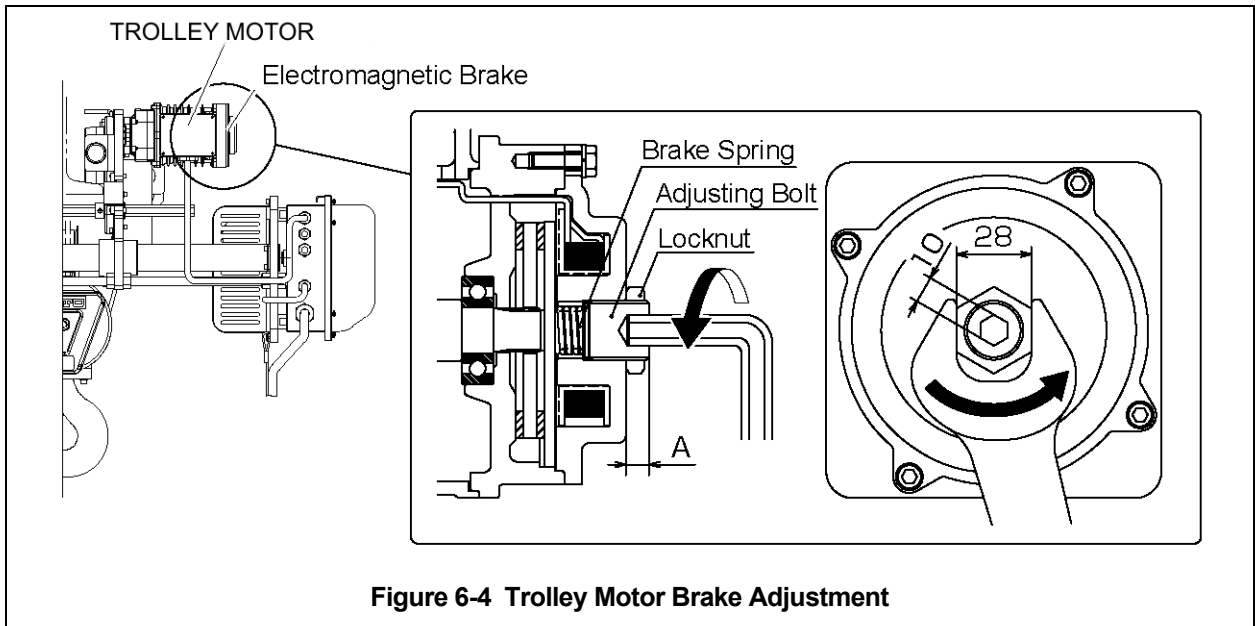

Figure 6-4 Trolley Motor Brake Adjustment
6.5.4 Motor Brake Check - See **Figure 6-4**.
- 2) The Trolley Motor Brake is factory set/adjusted for optimal brake force. The brake torque can be changed in accordance with brake wear. The brake torque can be changed by changing the projection amount (Dimension A) of the Adjusting Bolt on the back of the trolley motor. Using **Figure 6-4** and **Table 6-10** to adjust the trolley motor brake as needed.